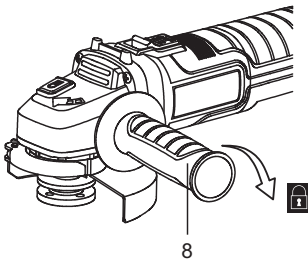

Fig. 1
1. Screw the auxiliary handle (8) clockwise in one of the mounting threads (2) (Figs. 1, 2).
2. Make sure the auxiliary handle (8) is securely fastened.